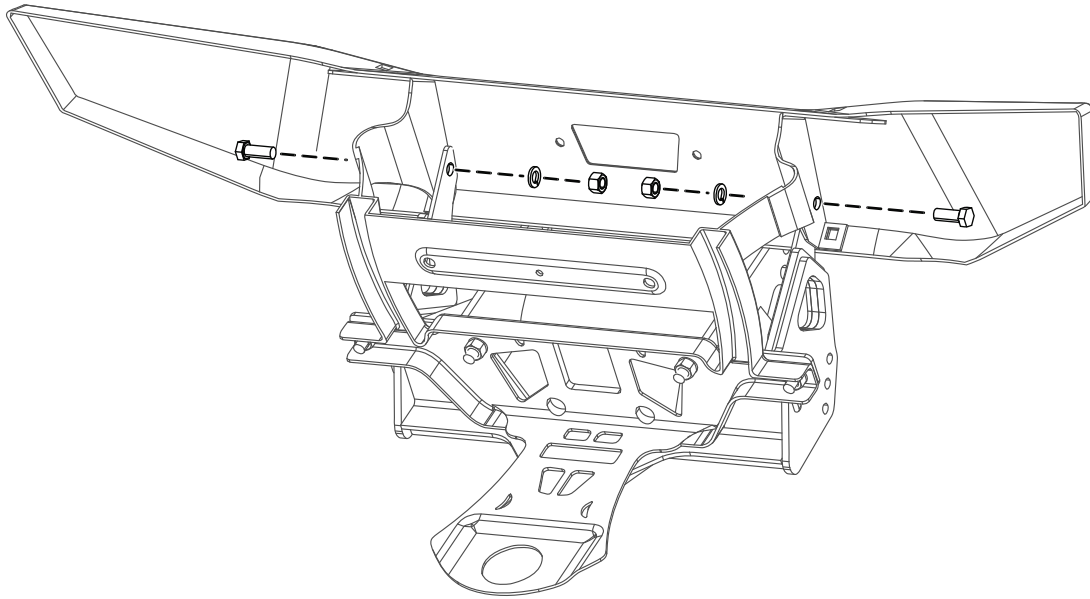

Figure 2
- Loosely secure the middle of the undercarriage skid plate to the vehicle frame using 2 bolts (M12 x 1-3/4 inches), 2 lock washers, and 2 nuts (Figure 2).